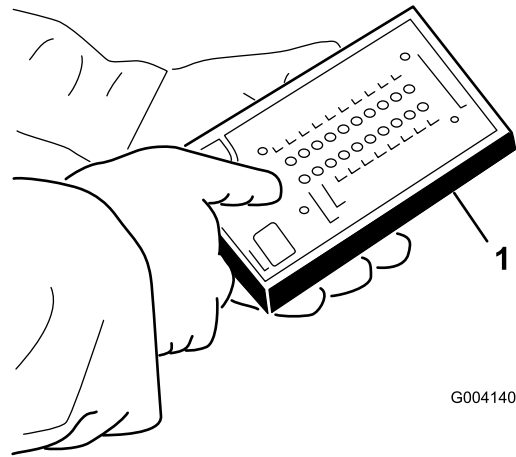

Figure 23
4. Connect the Diagnostic ACE display tool connector to the diagnostic connector (Figure 23).